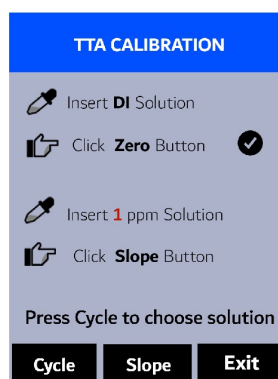

Figure 5.
5. If the calibration succeeds, a checkmark (✔) and instructions for the slope calibration will appear (Figure 5).